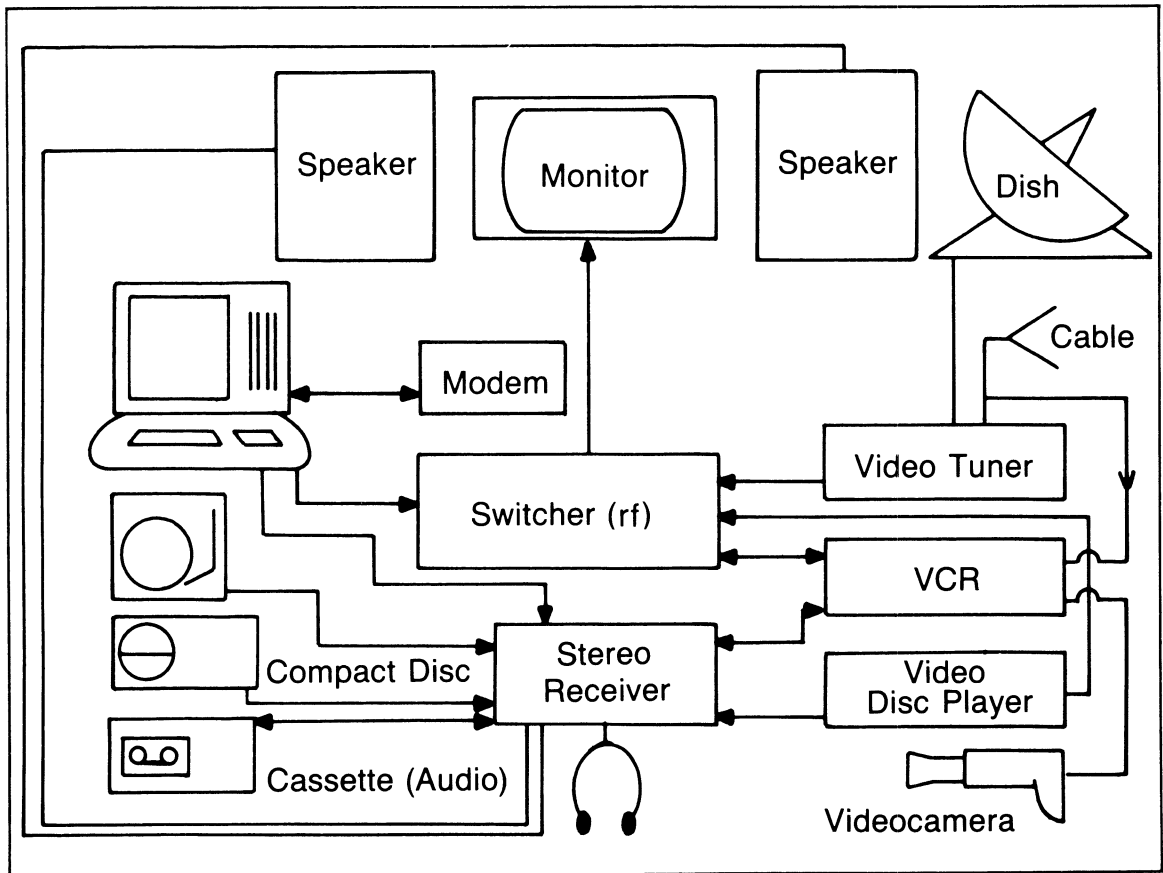

Fig. 16-1. Components of the media room.
**A** RECENT PHENOMENON IN AMERICAN HOMES is the *media room*. With the rush of new technologies, no one wants to admit to being in the dark ages of the family TV room. Ten to fifteen years ago, a TV (likely black and white) and a record player were standard in most homes. But today's complete media room (see Fig. 16-1) boasts a modular assortment of the basics: a monitor, video tuner, video cable, video cassette recorder, video disc player, video camera, video game player, computer with modem for information, banking, and shopping, a component—yet integrated—stereo which includes an AM/FM tuner and amplifier (or receiver), linear tracking turntable, graphic equalizer, cassette deck, compact disc player, headphones, and a set of 3-way speakers. Did we forget the satellite dish on the roof?